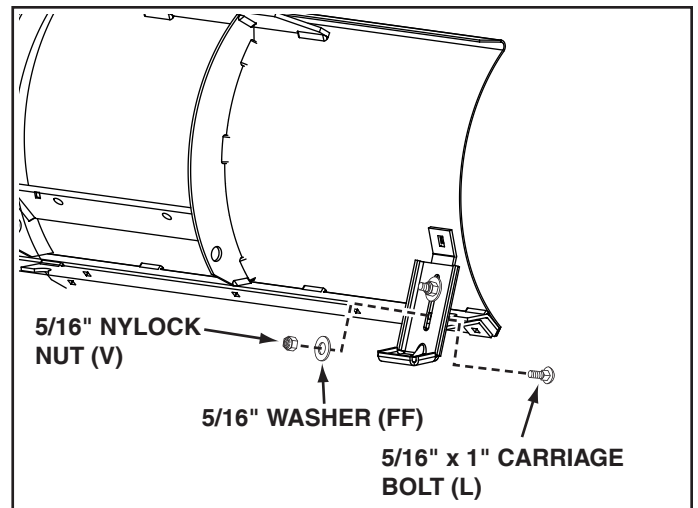

FIGURE 18
STEP 17: (SEE FIGURE 18)
- Attach the skid shoes to the blade using four 5/16" x 1" carriage bolts (L), 5/16" flat washers (FF) and 5/16" nylock nuts (V). Do not tighten yet.